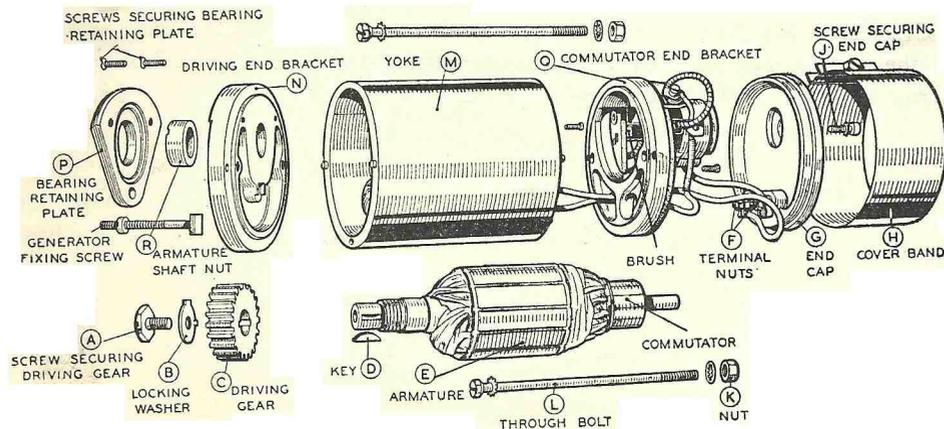

Fig. Y33. Generator, model E3HM.
On E3HM machines, bend back the tag on the washer (B) Fig. Y33, locking the screw (A) securing the driving gear (C) and remove the screw. On E3H machines, withdraw the cotter pin (A) and remove the nut (B) from the armature shaft. Withdraw the gear from